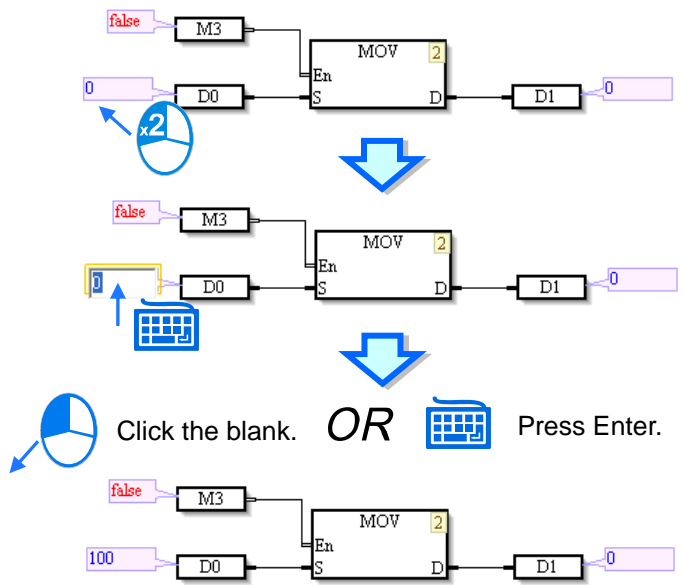

Figure 12-54 Changing the value in a node
- (2) If the users want to change the value in a node, they have to double-click the text box showing the value in the node, type a value, and press Enter on the keyboard, or click the blank in the program editing area. Please see figure 12-54.